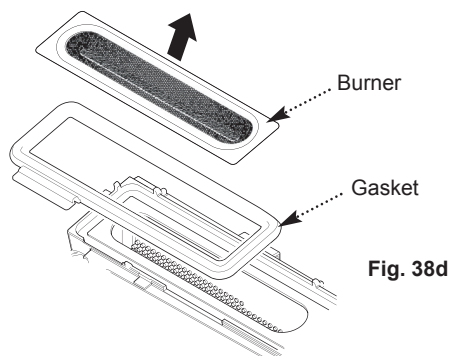
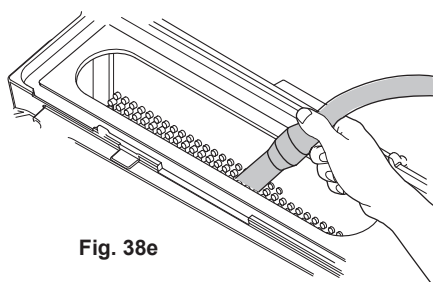

Fig. 38d
Fig. 38e
12. Remove the gasket and burner from the top of the heat exchanger (Fig. 38d). Use a suitable vacuum cleaner to clean the top part of the heat exchanger (Fig. 38e).